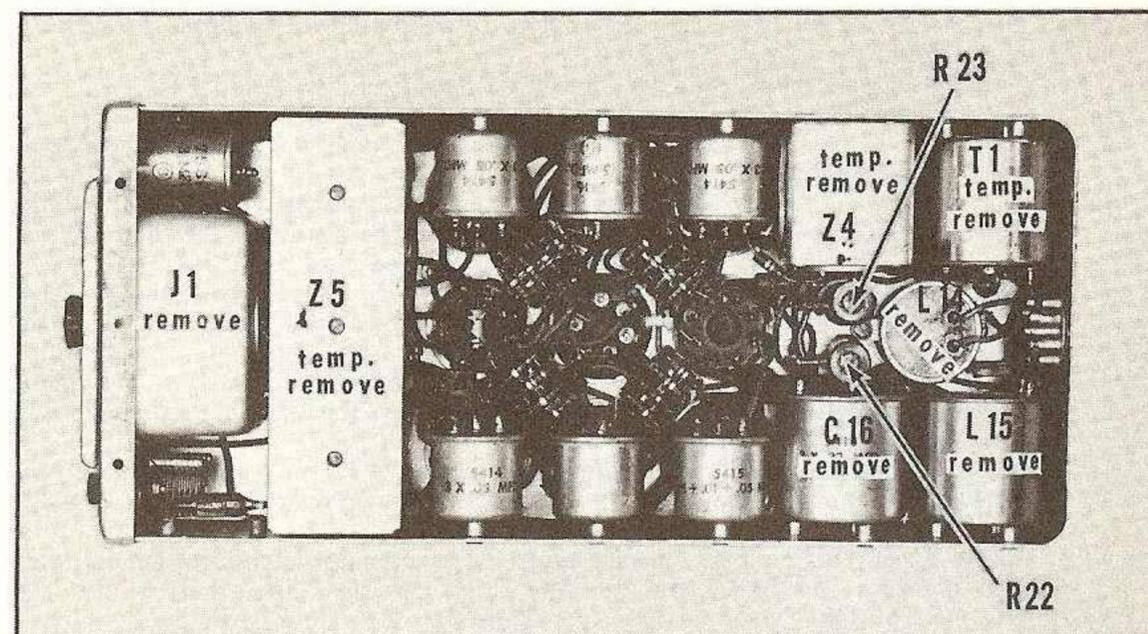

Fig. 9 Under-chassis view of unmodified "Command" set showing placement of the major components. Coil compartment Z-5 of r-f stages is at left of chassis.
- ( ) Temporarily remove the r-f coil assembly Z-5 (Figure 9) by removing the two side screws and pulling up on the coil box. Save the screws.